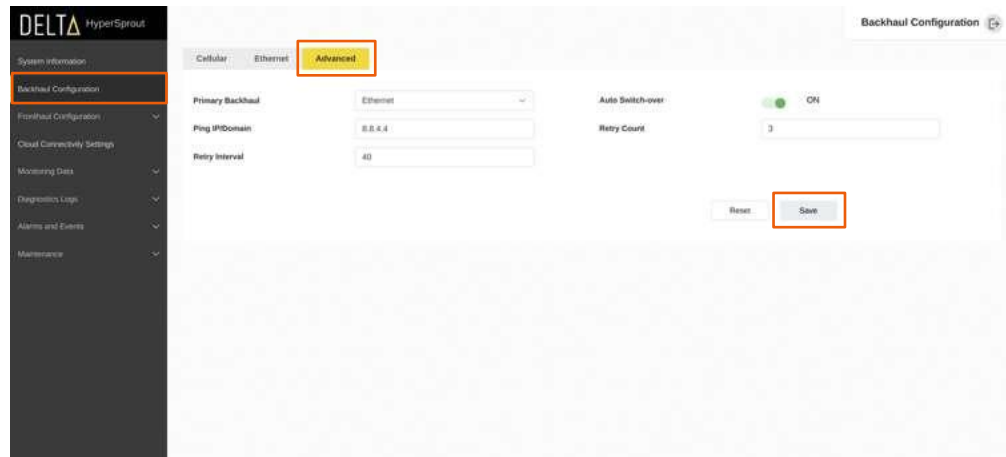

Figure 42: Backhaul - Advanced
- g. **Auto switch over** will switch the backhaul connection from the primary backhaul to the secondary backhaul in case of any failure in the primary backhaul connection, as shown in *Figure 42*.